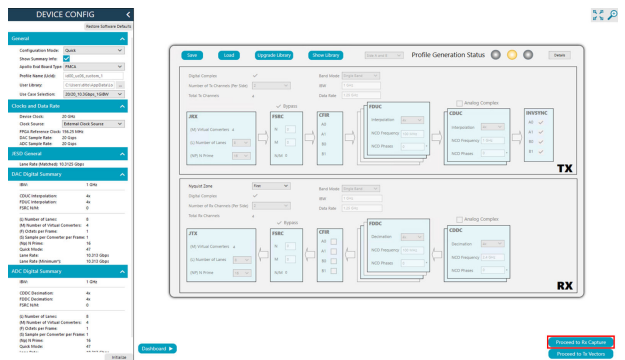

Figure 29. Rx Capture Selection
- Click **Proceed to Rx Capture** to capture ADC outputs and view time domain and FFT waveforms (see Figure 29).